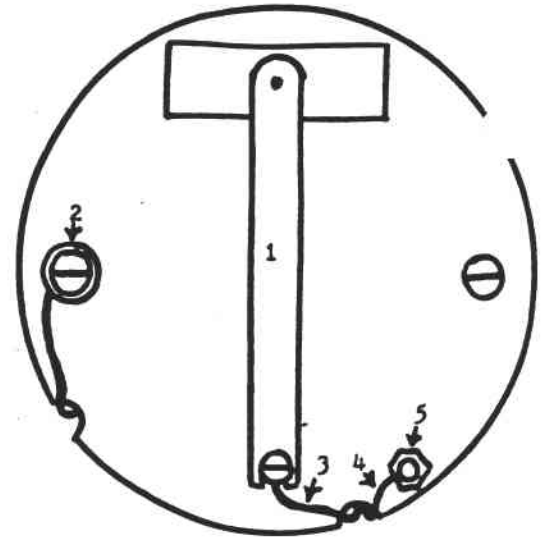

Fig. 1: This is what the fuel pump pedestal looks like before conversion.
2. When attaching the stationary point (fig. 1, #1) to the mounting pedestal, do not put the coil wire (fig. 1, #3) under the mounting screw as you normally would. Instead, put one of the solder lugs under the screw (fig. 2, #9).